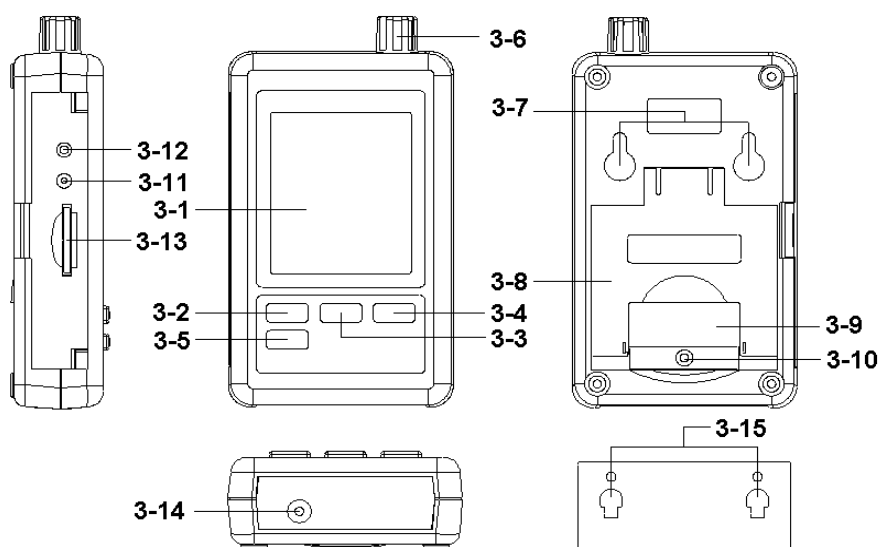

Fig. 1
- * Loose the " Screw of the battery cover " (3-10, Fig. 1) and take away the " Battery Cover " (3-9, Fig. 1) from the meter.
- 2) The " Display " (3-1, Fig. 1) will show both the humidity and the temperature value that sensing from Humidity/Temp. sensor " (3-6, Fig. 1).
Prepare a " SD memory card " (1 GB to 16 GB, optional), insert the SD card into the " SD card socket " (3-13, Fig. 1) with the correct direction exactly.
Press the " Logger button (3-2, Fig. 1) > 2 seconds continuously, until the Display show the indicator " DATALOGGER ", release the " Logger Button " (3-2, Fig. 1), then the measuring data along the time information will be saved into the memory circuit.
During execute the Datalogger function (Display show the " Datalogger " indicator), press the " Logger button " (3-2, Fig. 1) > 2 seconds continuously, until the Display indicator " DATALOGGER " is disappeared, release the " Logger Button " will finish the Datalogger function.
Press " Time button " (3-3, Fig. 1) > 2 seconds continuously, the LCD display will present the time information of Year/Month/Date, Hour/Minute/Second and the sampling value.
Under do not execute the Datalogger function, press the " SET button " (3-5, Fig. 1) > 2 seconds continuously will enter the " Setting " mode., then release the " SET button ". Following press the " SET button " (3-5, Fig. 1) once a while in sequence to select the seven main function, the display will show :
- 1) Use the " ▲ Button " (3-3, Fig. 1) or " ▼ Button " (3-4, Fig. 1) to select the upper value to " yES " or " no " .
- 2) If select the upper to " yES " , press the " Enter Button " (3-2, Fig. 1) once again, the Display will show text " yES Enter " to confirm again, if make sure to do the SD memory card format, then press " Enter Button " once will format the SD memory clear all the existing data that already saving into the SD card.
- 1) Use the " ▲ Button " (3-3, Fig. 1) or " ▼ Button " (3-4, Fig. 1) to adjust the value (Setting start from Year value). After the desired value is set, press the " Enter button " (3-2, Fig. 1) once will going to next value adjustment (for example, first setting value is Year then next to adjust Month, Date, Hour, Minute, Second value).